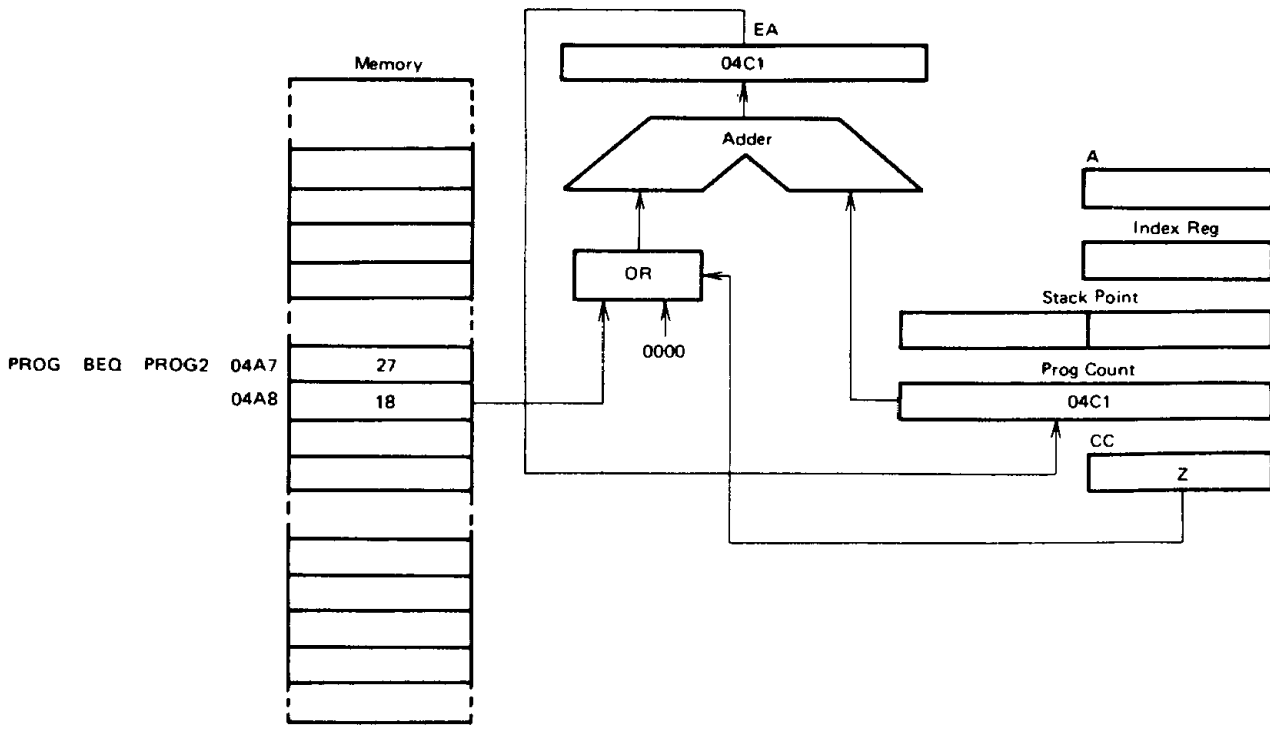

Figure 26 Relative Addressing Example
Refer to Figure 26. The relative addressing mode applies only to branch instructions. In this mode the contents of the byte following the opcode is added to the program counter when the branch occurs.  $EA = (PC) + 2 + Rel$ . Rel shows the contents of the 7-bit signed bit location following the instruction opcode. If branching doesn't occur,  $Rel = 0$ . When a branch takes place, the program goes to somewhere within the range of +129 bytes to 126 of the present instruction. These instructions are two bytes long.